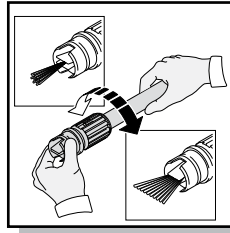

Fig. 8
- When using the adjustable spray lance, the spray pattern and intensity can be controlled according to power of water needed for each task by twisting the spray nozzle at the far end of the lance (Fig. 8). These can be used for sweeping leaves or debris from flat surfaces or curbing. This lance has the widest variety of applications as the fan degree allows for good impact pressure *and* cleaning coverage.